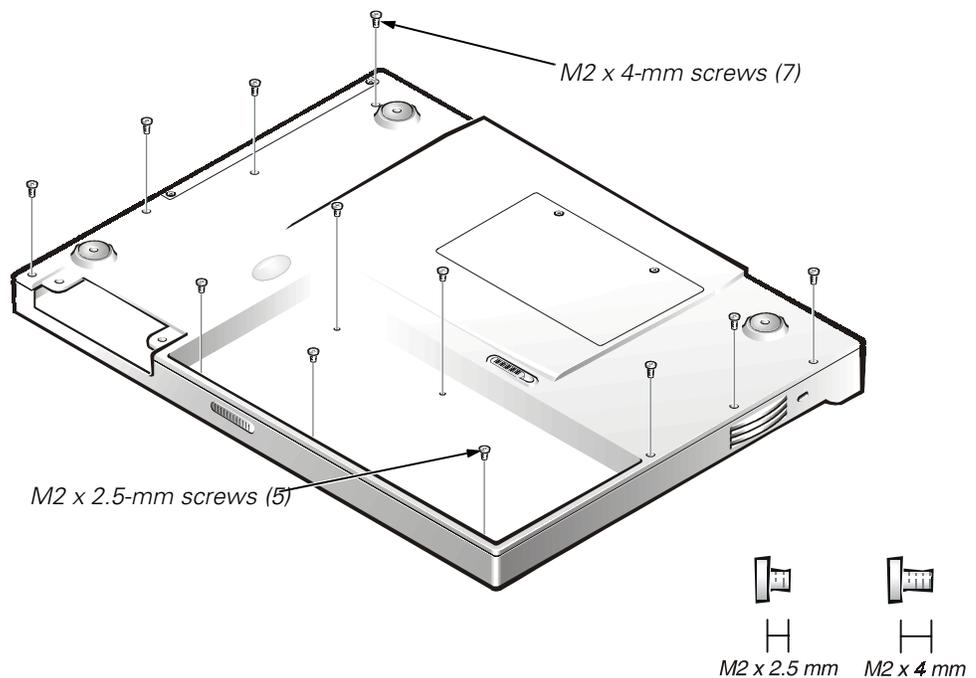

Figure 14. Removing the Palmrest-Assembly Screws
These screws are located along the left and right sides on the bottom of the computer (see Figure 14).
6. Remove the five M2 x 2.5-mm screws located in the main battery compartment (see Figure 14).
4. Remove the palmrest assembly (see Figure 14).